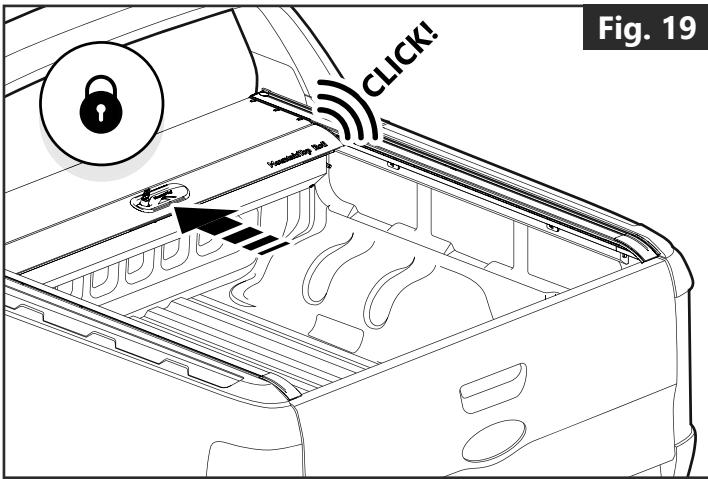

Fig. 19
- When the Roll cover is fully opened, a lock activator is automatically triggered, engaging the locking system. (**Fig. 19**)